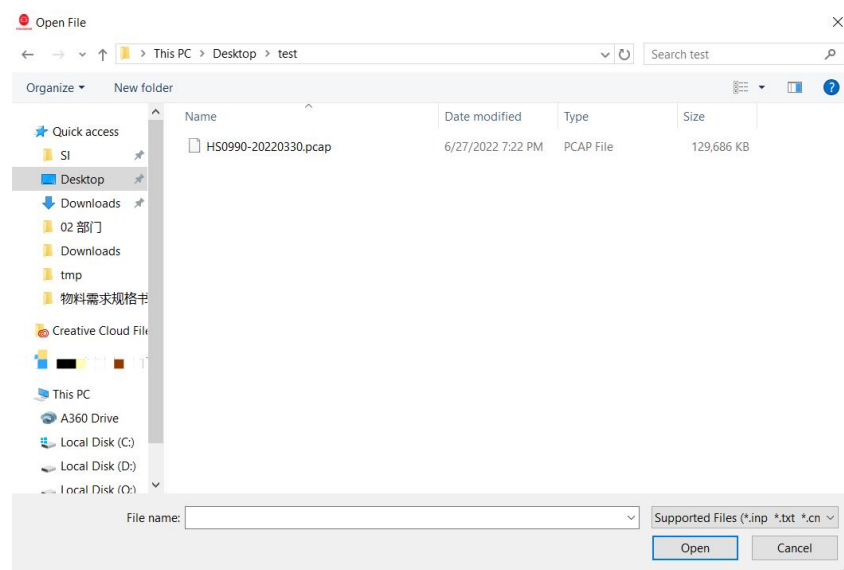

Figure C-5 RSView Record Saving Dialog.
2. In the “Choose Output File” dialog that pops up, set the save path and file name, and then click the **Save (S)** button (Figure C-5). RSView will start to write the packet file into the target pcap file. (Note: RS-Helios LiDAR will generate huge volume of data. As the recording time gets longer, the target pcap file will become larger. Therefore, it is better to save the recorded file to the HDD or SSD instead of a slow subsystem such as a USB drive or network drive.)